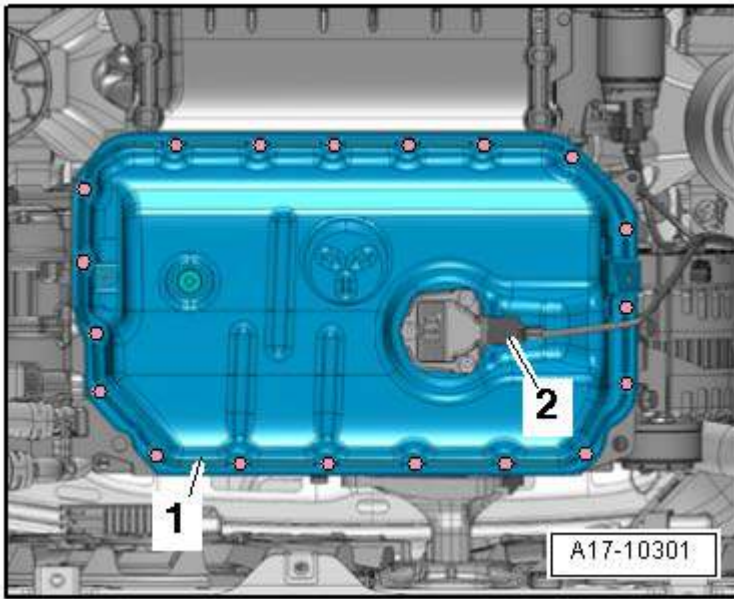

Fig. 10: Identifying Lower Oil Pan Bolt, Tightening Sequence
- Tightening specification and sequence, refer to **Fig. 10**